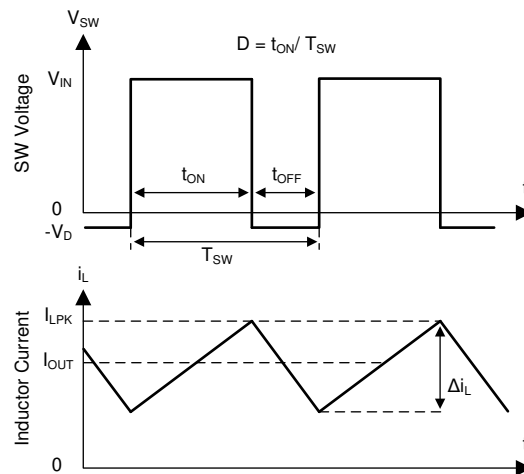

图 10. SW Node and Inductor Current Waveforms in Continuous Conduction Mode
The following operation description of the LM76002/LM76003 refers to the Functional Block Diagram and to the waveforms in Figure 10. The LM76002/LM76003 supplies a regulated output voltage by turning on the internal high side (HS) and low side (LS) NMOS switches with varying duty cycle (D). During high-side switch on-time t_{ON} , the SW pin voltage V_{SW} swings up to approximately V_{IN} , and the inductor current i_L increase with linear slope. The HS switch is off by the control logic. During the HS switch off-time, t_{OFF} , the LS switch is turned on. Inductor current discharges through the LS switch, which forces the V_{SW} to swing below ground by the voltage drop across the LS switch. The regulator loop adjusts the duty cycle to maintain a constant output voltage. The control parameter of buck converter is defined as duty cycle $D = t_{ON} / t_{SW}$. In an ideal buck converter, where losses are ignored, D is proportional to the output voltage and inversely proportional to the input voltage: $D = V_{OUT} / V_{IN}$.